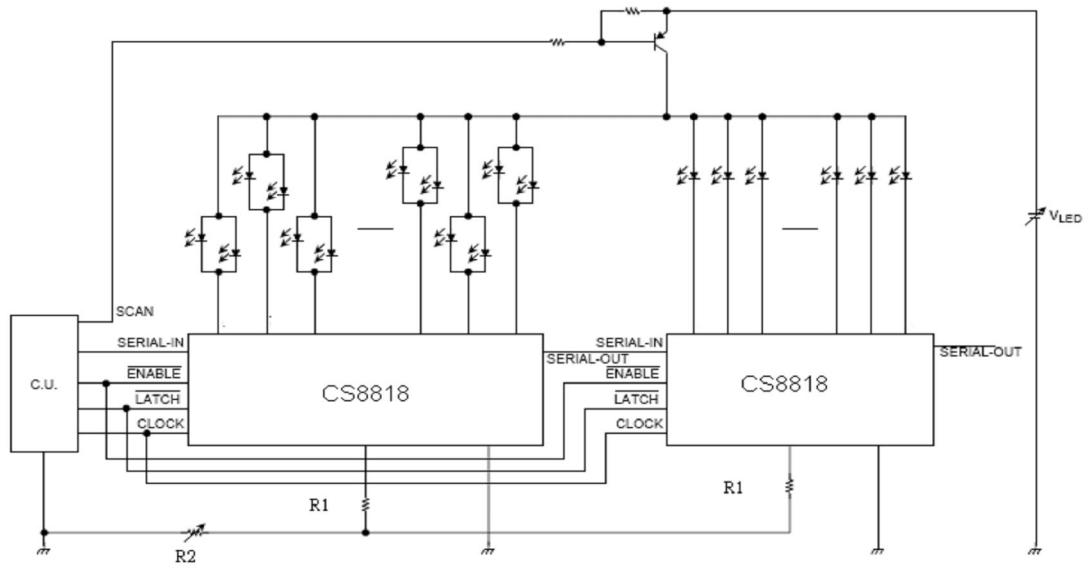
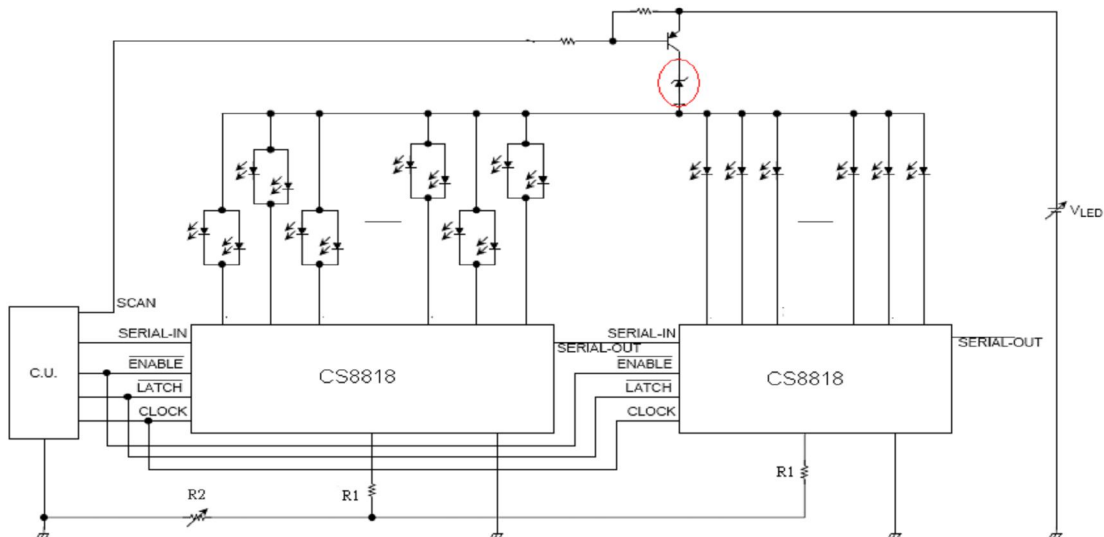
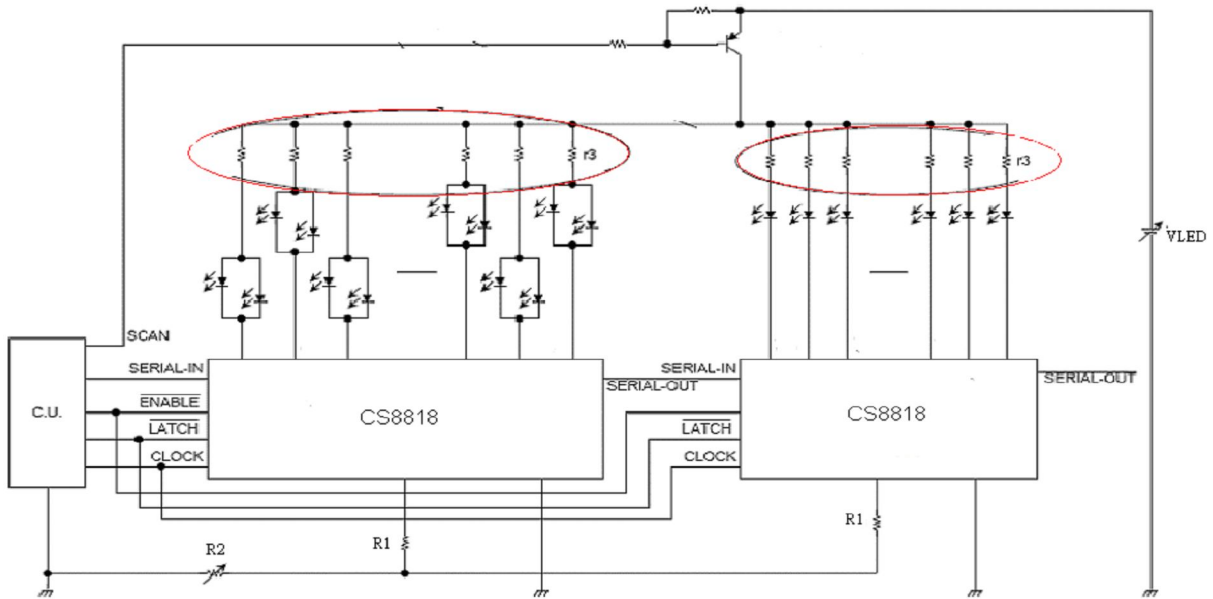

Figure 6: The general circuitry
Figure 7: Addition of Zener Diode
Figure 8: Addition of R3
In order to improve these abnormal operation, CHIPLUS give example circuitry for reference application only. Please refer to Figure 6, Figure 7, and Figure 8 in below.
A. PNP BJT of Figure 6、Figure 7、Figure 8, the main chip could control the scanning function on different LED cells simultaneously.
B. R1 of Figure 6、Figure 7、Figure 8, the setup resistance for the setup of output current of every IC.
C. R2 of Figure 6、Figure 7、Figure 8, the variable resistance for the brightness control of every LED module.
D. Zener Diode of Figure 7, the unnecessary voltage is one effective technique as to making the voltage descend With the Zener Diode.
E. R3 of Figure 8, it can improve on surplus V_{out} causes an IC fever and the useless consumption Electric power